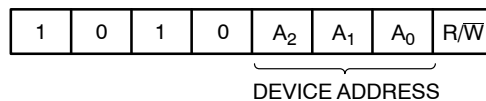

Figure 3. Slave Address Bits
The Master addresses a Slave by creating a START condition and then broadcasting an 8-bit Slave address. For the CAT24C64, the first four bits of the Slave address are set to 1010 (Ah); the next three bits, A₂, A₁ and A₀, must match the logic state of the similarly named input pins. The R/ $\overline{W}$ bit tells the Slave whether the Master intends to read (1) or write (0) data (Figure 3).